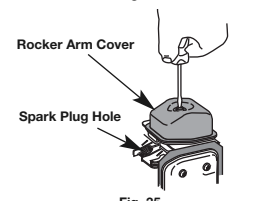

Fig. 35
6. Clean dirt from around the rocker arm cover. Remove the screw holding the rocker arm cover with a large flat blade screwdriver or Torx T-25 bit (Fig. 35). Remove the rocker arm cover and gasket.